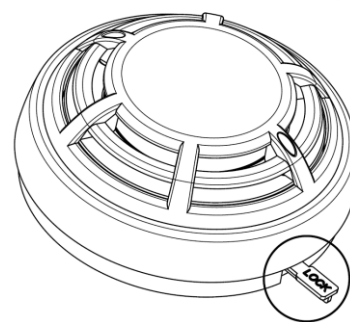

Fig.4
- If the detector is locked to the base, to unlock it, insert first the key to the specified location (Fig. 4) and rotate the detector counterclockwise;